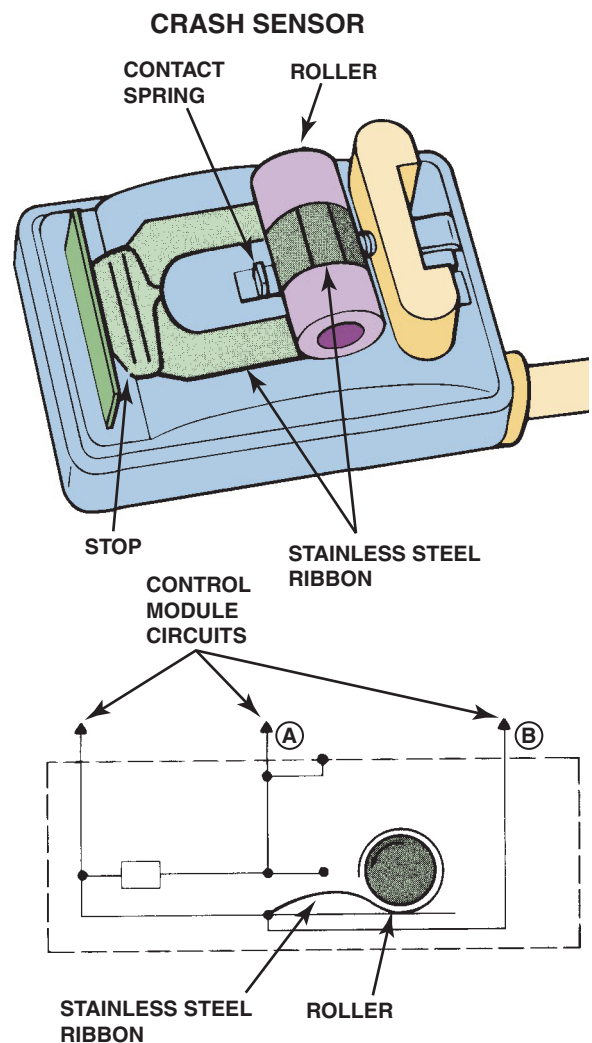

FIGURE 25-10 Some vehicles use a ribbon-type crash sensor.
2. **Rolled up stainless-steel ribbon-type sensor.** This sensor is housed in an airtight package with nitrogen gas inside to prevent harmful corrosion of the sensor parts. If the vehicle (and the sensor) stops rapidly, the stainless-steel roll “unrolls” and contacts the two gold-plated contacts. Once the force is stopped, the stainless-steel roll will roll back into its original shape. ● **SEE FIGURE 25-10.**